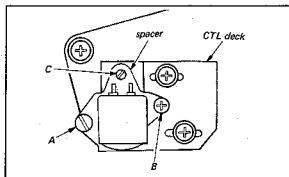

Fig. 4-9.
2. Remove the screws labelled A and B in Fig. 4-9 and lift the head assembly off the mounting plate. Be careful not to lose the Spring on the left screw.
on the Connector Panel and set the VTVM to ac (terminate the LINE OUT connector with a 100 k $\Omega$  resistor.) Thread the standard tape and play the 7 kHz audio signal. Adjust screws B (azimuth adjust) and C in Fig. 4-9 for maximum indication on the VTVM.